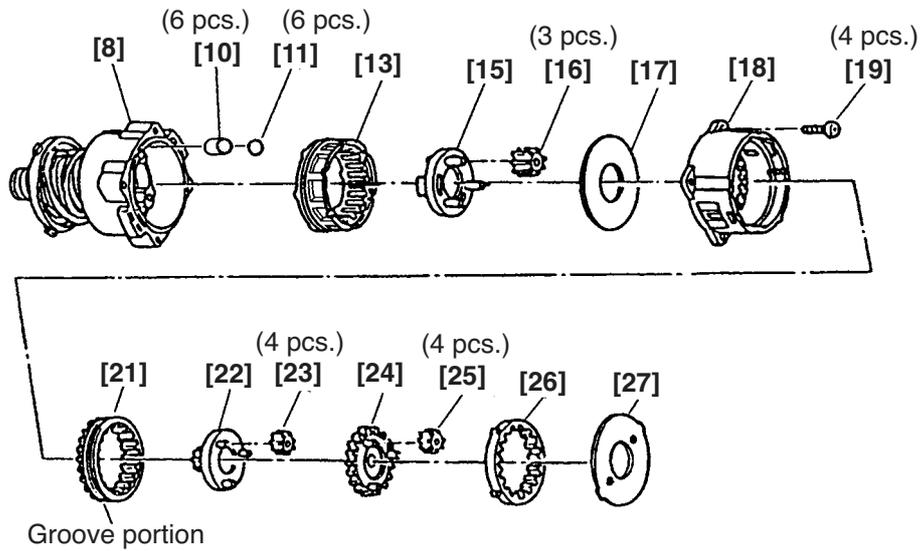

Fig. 6
(b) Mount the parts from the Roller [10] to Plate (A) [27] to the part assembled in the above (3) in order (see Fig. 6).
- ① Mount the Roller [10] first then mount the Steel Balls D5 [11].
- ② Pay attention to the mounting direction of the Ring Gear [13], Carrier [15], Slide Ring Gear [21], Pinion (C) [22] and Pinion (B) [24] (see Fig. 6).
- ① Mount the Shift Arm [20] to the protruded side of the Rear Case [18] facing its bent portion forward. At this time, insert the protrusion of the Shift Arm [20] into the hole of the Rear Case [18] and check that the protrusion is inserted into the groove of the Slide Ring Gear [21] that is mounted in the Rear Case [18] (see Fig. 6).
- ② Insert the Shift Arm [20] into the groove of the Shift Knob [39] facing "LOW" indication on the Shift Knob [39] backward.